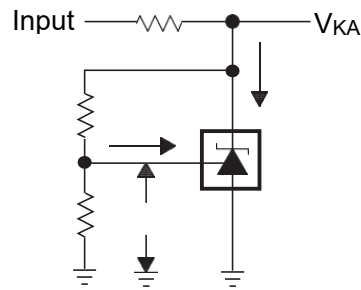

图 21  $V_{KA}>V_{ref}$  的测试电路
当设备使用两个外部电阻工作时 (见图 21), 总动态阻抗电路由以下各项给出:  $|z_{KA}| \left( 1 + \frac{R1}{R2} \right)$
| ΔV ref / ΔV KA | Ratio of change in reference voltage to the change in cathode voltage           | See Figure 21   | I KA = 10 mA  | ΔV KA = 10 V - V ref | -1.4 | -2.7 | mV/V |
| I ref                     | Reference input current   | See Figure 21   | I KA = 10 mA, R1 = 10 kΩ, R2 = ∞                                      |  |      | μA   |      |
| I I(dev)                  | Deviation of reference input current over full temperature range (1) | See Figure 21   | I KA = 10 mA, R1 = 10 kΩ, R2 = ∞                                      |  |      | μA   |      |
当设备使用两个外部电阻运行时 (见图 21), 电路的总动态阻抗为  $|z'| = \frac{\Delta V}{\Delta I}$
| $\frac{\Delta V_{ref}}{\Delta V_{KA}}$ | Ratio of change in reference voltage to the change in cathode voltage           | See Figure 21   | I KA = 10 mA  | $\Delta V_{KA} = 10\text{ V} - V_{ref}$     | -1.4 | -2.7 | mV/V |
| I ref                       | Reference input current   | See Figure 21   | I KA = 10 mA, R 1 = 10 kΩ, R 2 = ∞              |   |      | μA   |      |
| I I(dev)                    | Deviation of reference input current over full temperature range (1) | See Figure 21   | I KA = 10 mA, R 1 = 10 kΩ, R 2 = ∞              |   |      | μA   |      |
| $\frac{\Delta V_{\text{ref}}}{\Delta V_{\text{KA}}}$ | Ratio of change in reference voltage to the change in cathode voltage           | See Figure 21   | $I_{\text{KA}} = 10 \text{ mA}$   | $\Delta V_{\text{KA}} = 10 \text{ V} - V_{\text{ref}}$ | -1.4 | -2.7          | mV/V |
| $I_{\text{ref}}$                                     | Reference input current   | See Figure 21   | $I_{\text{KA}} = 10 \text{ mA}, R_1 = 10 \text{ k}\Omega, R_2 = \infty$                                 |  |      | $\mu\text{A}$ |      |
| $I_{\text{I(dev)}}$                                  | Deviation of reference input current over full temperature range (1) | See Figure 21   | $I_{\text{KA}} = 10 \text{ mA}, R_1 = 10 \text{ k}\Omega, R_2 = \infty$                                 |  |      | $\mu\text{A}$ |      |